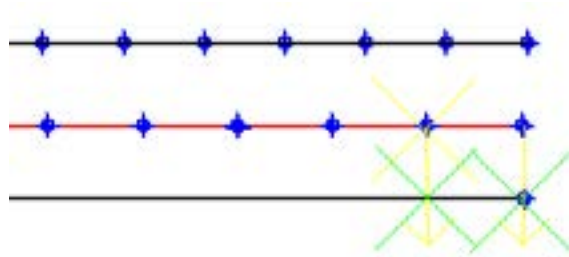

Figure 2-56 Cross-marks indicating the location of the point
13. Specify the description and the elevation as specified in steps 7 and 8; a point is displayed on the line, refer to Figure 2-56.